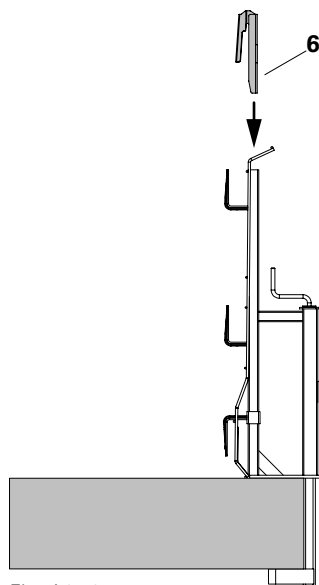

Fig. A2.12
1. Insert Clamping Holder GH-2 from above into the tube of the Guardrail Holder-2. (Fig. A2.12/A2.13)